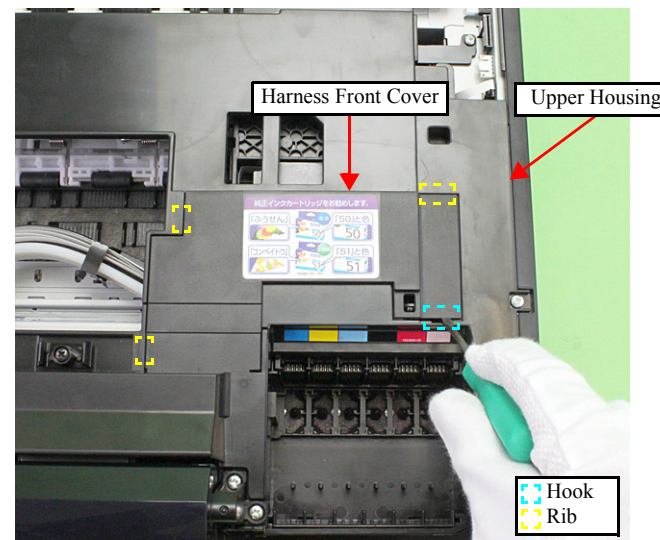

Figure 9-7. Removing the Upper Housing (1)
- When installing the Front Harness Cover, insert the ribs (x2) of the Front Harness Cover to the Upper Housing, and secure them with the hook (x1). (See Fig. 9-7.)